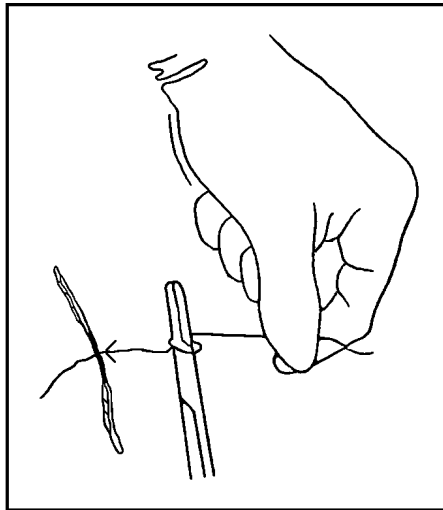

Figure 3-36
- (7) Loop the long end of the suture material around the tip of the needle holder. (See Figure 3-36.)